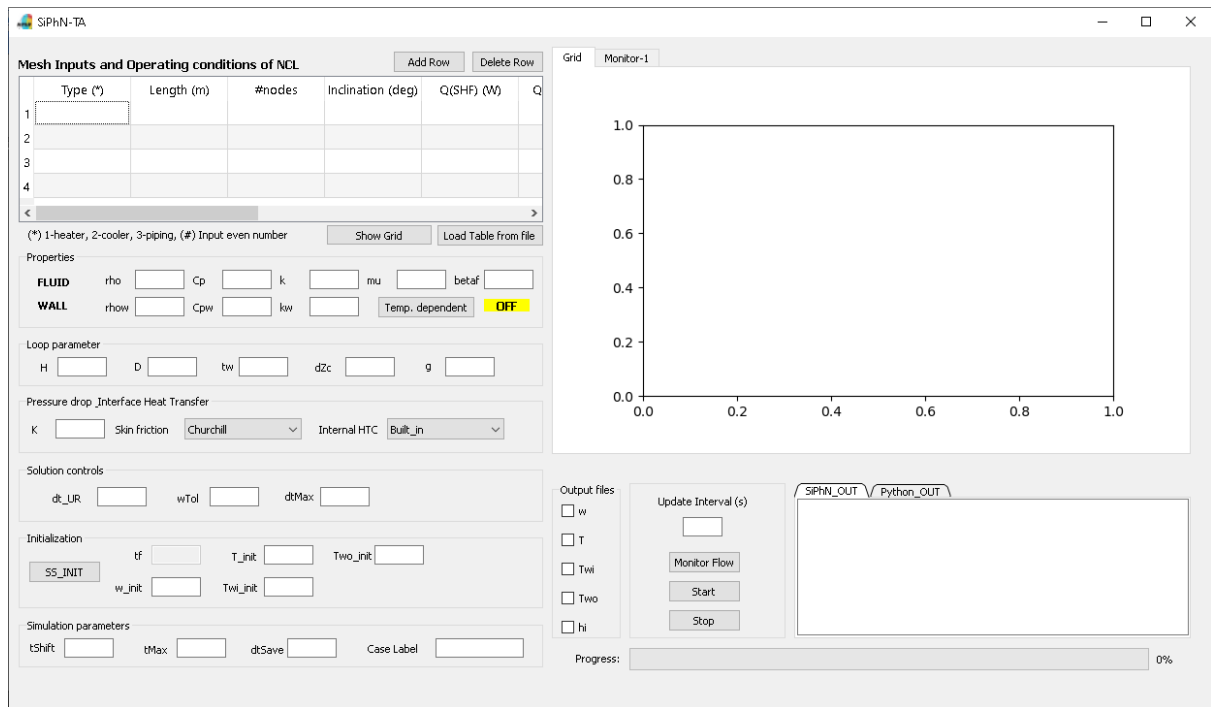

Fig. 5: Window of TA module
- ✚ This module has GUI (Fig. 5)